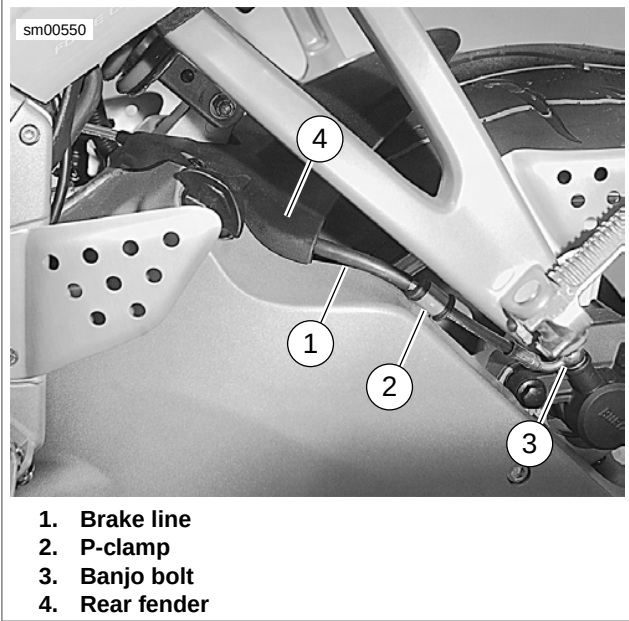

Figure 2-59. Rear Brake Line
- 7. See Figure 2-59. Remove p-clamp (2) securing brake line (1) to the left side of swingarm.
3. See Figure 2-59. Secure brake line (1) to left side of swingarm with p-clamp (2), and tighten to 36-60 **in-lbs** (4-7 Nm). See D.1 APPENDIX D: HOSE AND WIRE ROUTING for brake line routing.
3. See Figure 2-59. Secure brake line (1) to left side of swingarm with p-clamp (2) and tighten to 36-60 **in-lbs** (4-7 Nm). See D.1 APPENDIX D: HOSE AND WIRE ROUTING for brake line routing.